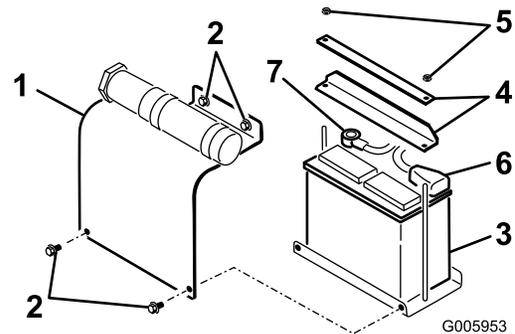

Figure 5
1. Remove the four bolts securing the battery cover and remove the cover (Figure 5).
2. Remove the nuts and bars which will secure the battery (Figure 5).
- Install the battery onto the platform (Figure 5).
- Secure the battery in the chassis with the bars and nuts removed previously (Figure 5).
- Connect the positive (red) cable to the positive (+) battery post (Figure 5). Slide the rubber cover over the battery post.
- Connect the negative (black) cable to the negative (-) battery post (Figure 5).
- Install the battery cover (Figure 5).